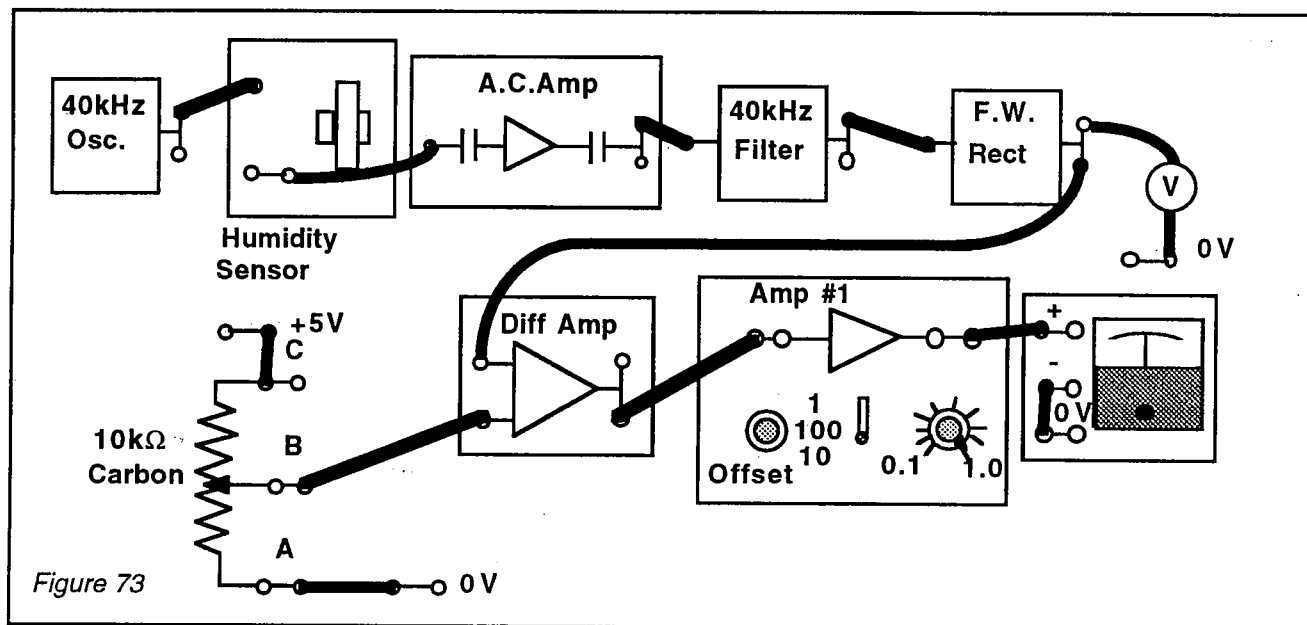

Figure 73
- Connect the circuit as shown in Fig 73, setting the A.C. amplifier gain control to 10 and the amplifier #1 gain controls to 10 and 1.0 for the coarse and fine controls respectively.